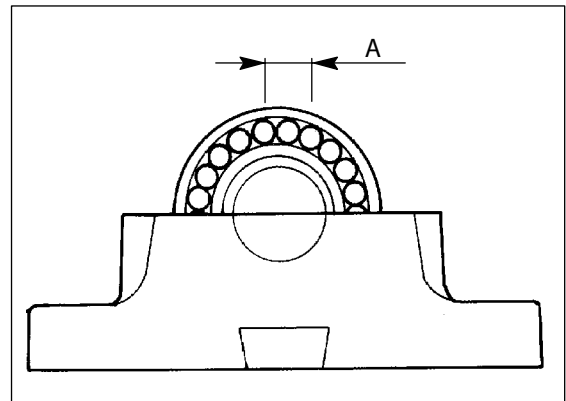
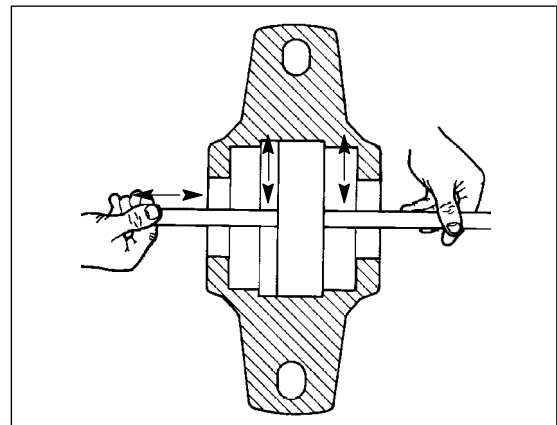

Fig. 8b. Push the feeler gauge between the rollers and outer ring.
Fig. 8c. Measuring the clearance
2. Remove the fastening bolts (M10) (7) and the upper bearing housings (6).
5. Bend the claw of the securing ring (3) out from the notch on the axle nut and open the axle nut.
6. Remove the spacer ring (3) if the bearing is at the feeder side.
7. Measure the radial clearance on top of the bearing between the rollers and outer ring with a feeler gauge. The clearance should be 0.02–0.03 mm (0,008-0,012"). Measure the clearance by pushing the feeler gauge between the rollers (point A, Fig. 8b.) through the bearing and then moving the gauge back and forth between the rollers and outer ring - see Fig. 8c. Do not force the feeler gauge through the clearance.
8. If the clearance exceeds 0.03 mm, bend the claw of the securing ring (2) out from the notch on the axle nut (1).
12. Install the upper bearing housing and tighten the bolts (6) to 50 Nm (36 7/8 lbf).